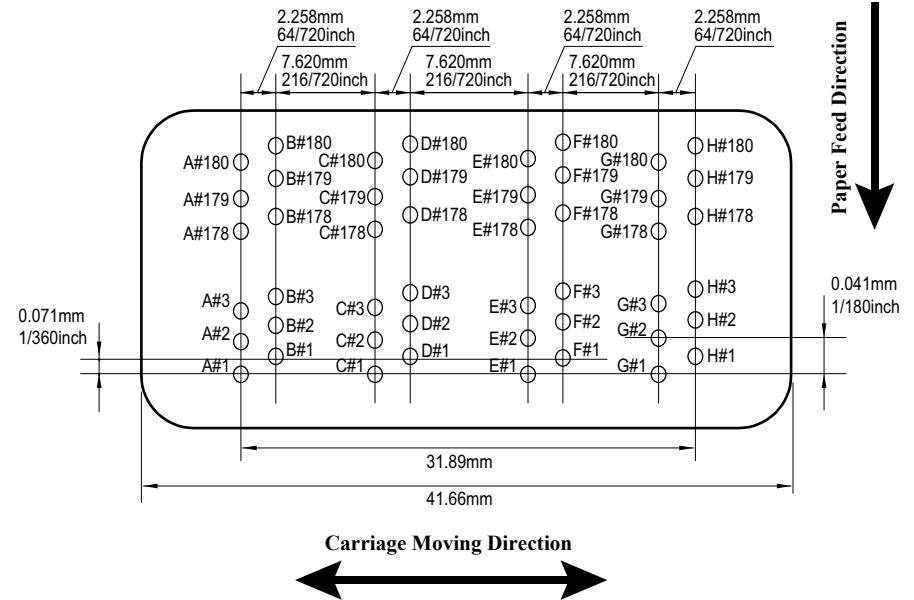

Figure 2-1. Nozzle Arrangement
- 180 nozzles x 8 rows = 1440 nozzles (See Figure 2-1)